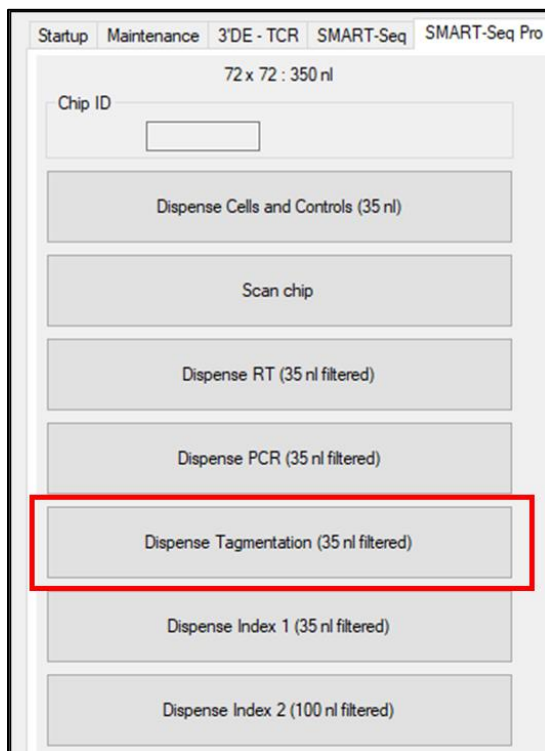

Figure 19. Using CELLSTUDIO software to dispense the Tagmentation mix.
- b. At Step 8, click the [Dispense Tagmentation (35 nl filtered)] button (Figure 19).